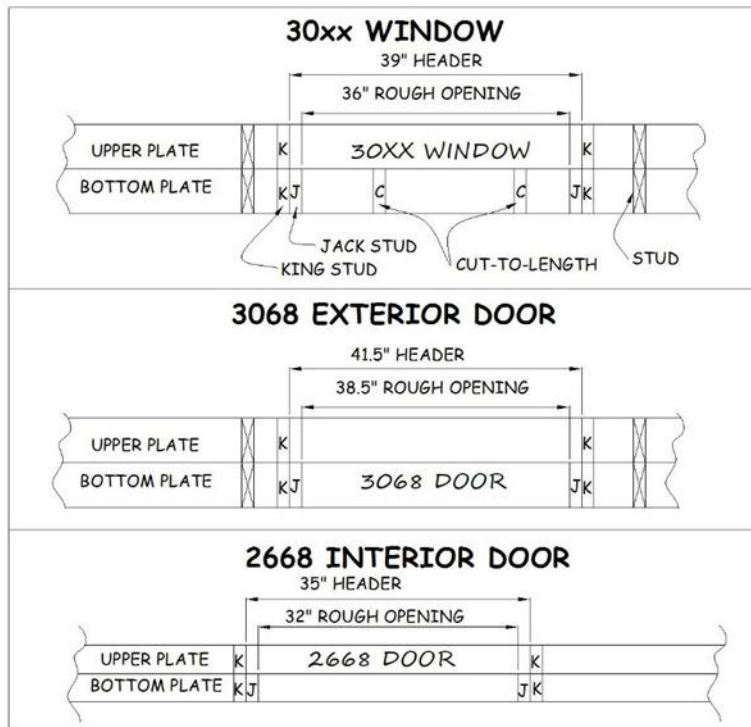
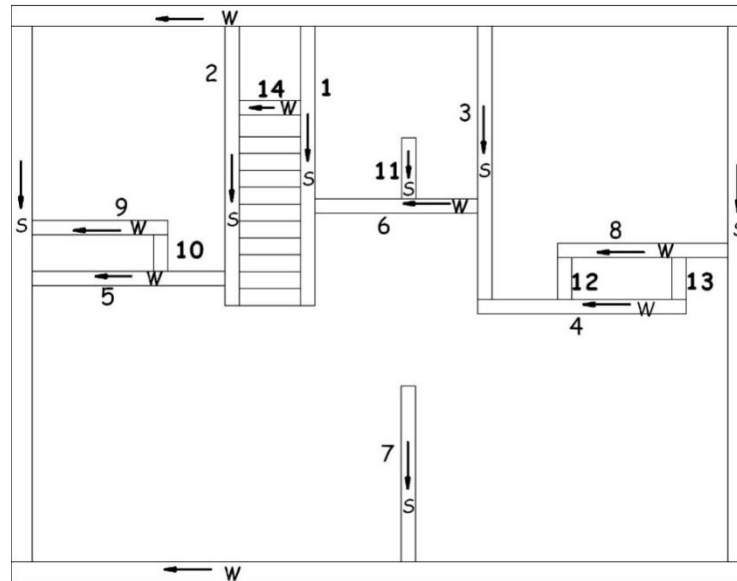

Figure 3-5. Plate Marking for Doors and Windows.
Figure 3-9. Plate Labeling Diagram.
3. Referring to the window or door sizes indicated on the Plate Layout Drawing, measure and mark the location of the King and Jack studs supporting the header (see Figure 3-5). Window and door sizes are indicated with a four-digit code. The first two digits represent the width of the opening in feet and inches. The second two digits represent the height of the opening in feet and inches. For example, a 3040 window is 3'-0" wide by 4'-0" high (i.e., 36" wide by 48" high).
4. Label the King and Jack stud locations with "K" or "J" to specify the location of the pre-built window and door components during wall assembly. The Jack studs will always be to the inside of the King Studs. Stud width is always 1½". Label the location of both King and Jack studs on the bottom plate but label only the King stud on the upper plate (see Figure 3-5).
- a. Mark the inside edge of the upper plate with “UPPER” and the inside edge of the bottom plate with “BOTTOM” (see Figure 3-5). Mark the upper plate with a letter and arrow showing the compass orientation (north, south, east or west) of the plates while lying on the deck (see Figure 3-9).